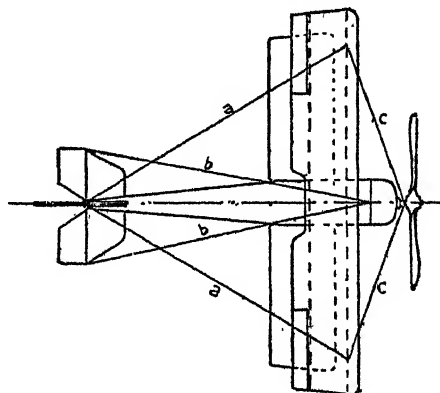

FIG. 17. Checking the overall measurements after rigging the machine.
- i. Check the overall measurements (as in Fig. 17).